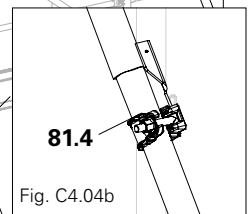
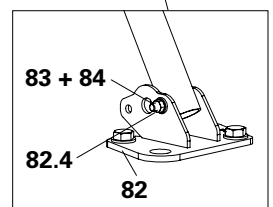

Fig. C4.04b
Fig. C4.04c
3. Loosen the bottom coupling (81.4) and extend the multi brace until the required support angle of $\alpha \leq 60^\circ$ has been reached. Tighten the bottom coupling. (Fig. C4.04b)
4. Fit the inner tube (81.2) onto the rear hole (82.4) of the base plate by means of bolts (83) and nuts (84).
5. Fix Base Plate EWB (82) to the substrate. (Fig. C4.04c)